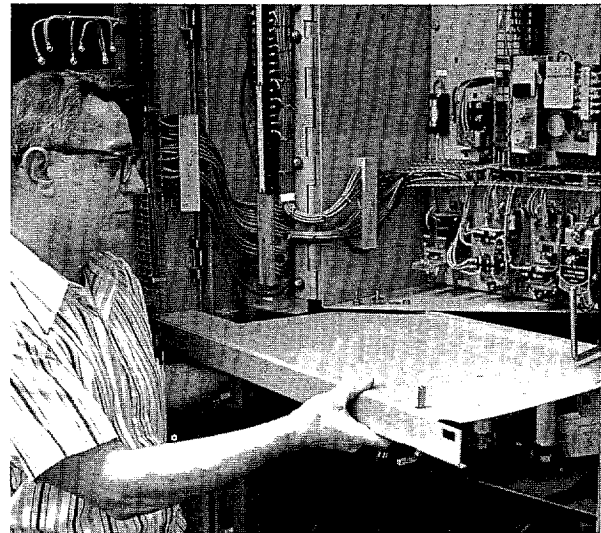

Fig. 29. Horizontal shelf and barrier removal.
7. Remove the horizontal barrier, Fig. 29. (If a hinged low-voltage panel is used, swing it to the left and out of the enclosure.)